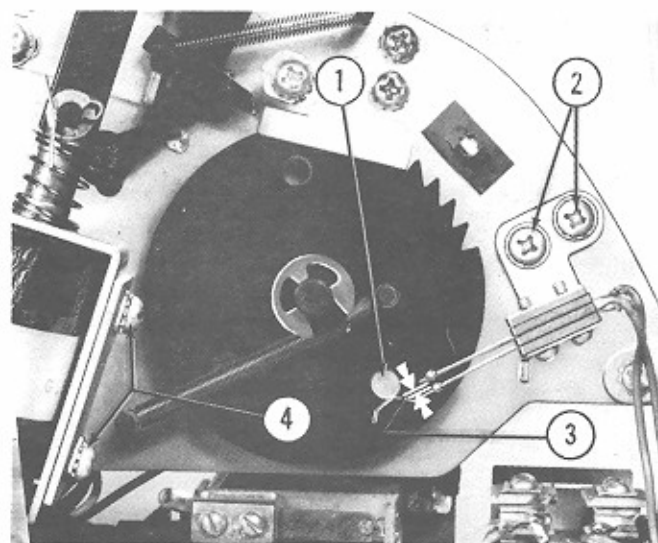
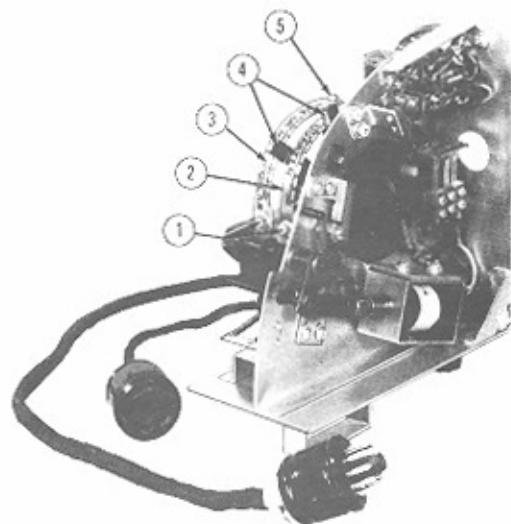

Fig. 14. KEY SWITCH - ADJUSTMENT
Fig. 15. STOP LEVER AND QUADRANT INDEXING STRIP ADJUSTMENT
(2) Based on the condition required in (1) the "key switch and bracket" may be moved on its mounting point by loosening the two screws shown in Figure 14, to provide opening of its contacts as shown. The key switch actuator, mounted on the cancel wheel, should be only slightly on the flat portion of the tip of the key switch blade. The switch contacts should be open 1/32".
(3) For this adjustment the cancel solenoid adjusting screws (Fig. 14) should be loosened and the cancel solenoid should be lowered to the limit of its adjustment. The indexing strips shown in Figure 15
(6) When all but one tooth of the accumulator wheels have been cancelled, or when only one credit has been set up, the actuator on the cancel wheel should have clearance at the key switch as shown in Figure 19. When all credits are cancelled the key switch should again be open as shown in Figure 14.